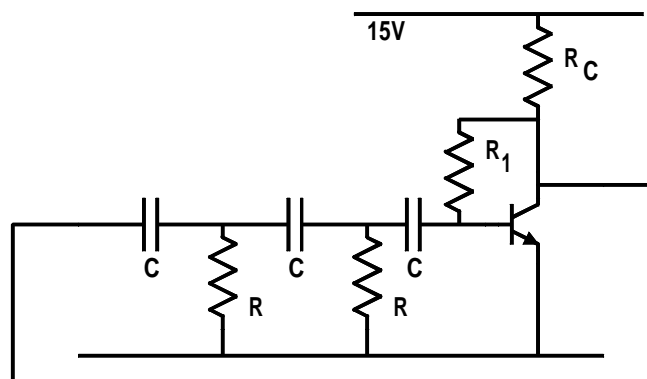

Figure 53.7: Example 53.1.
A suitable circuit is shown in Figure 53.7.
53.2 Sketch the voltage waveforms, showing the amplitude and phase, which you would expect to observe at the top of each of the resistors in the feedback CR network and at the base of the transistor in Figure 53.7.